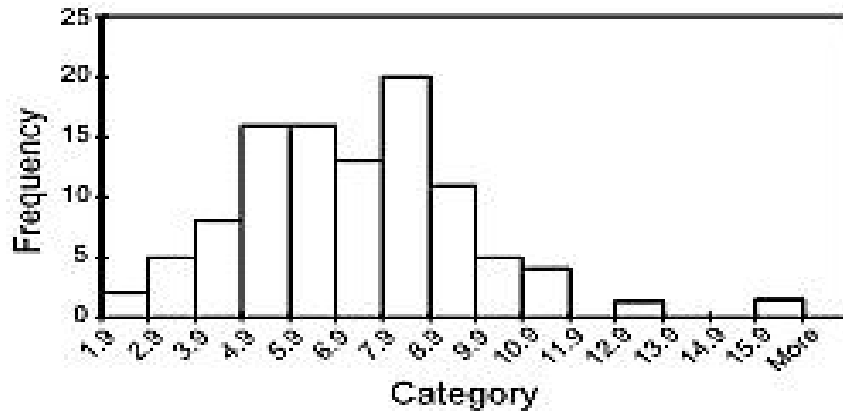

Figure 5.5: Histogram
**Histogram:** It shows vast volumes of data that are difficult to interpret when presented in their raw form. The frequency distribution of some quality criteria is shown in figure 5.5 as a histogram, which summarises data measured on a continuous scale (in statistical terms the central tendency and the dispersion of the data). On the histogram, the data mean is frequently shown. A bar chart is a sequence of bars that show the frequency of occurrence of data characteristics, with the height of the bars indicating the number of times a given quality characteristic was detected.